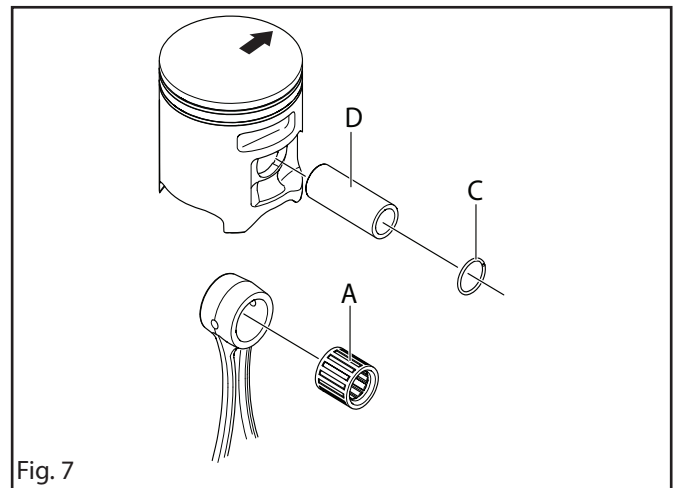

Fig. 7
1. Lubricate the needle bearing (A) and fit it in the connecting rod. See figure 7.
2. Place the piston with the arrow facing the exhaust port. Slide the wrist pin in (D) and fit the circlips (C). See figure 7.